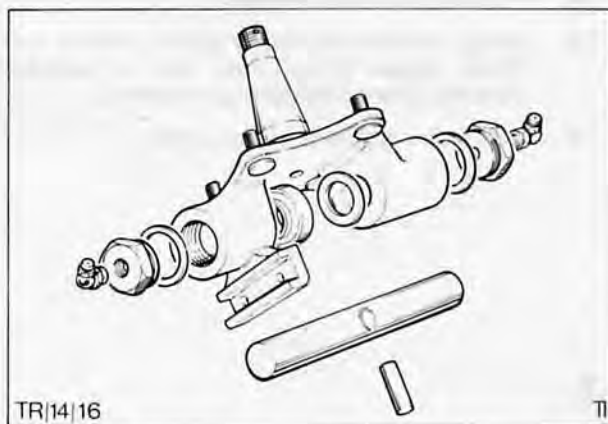

Fig. 16. Front stub axle and kingpin assembly
- Unscrew nuts, and remove nut complete with copper washer, both ends of kingpin, Fig. 16.